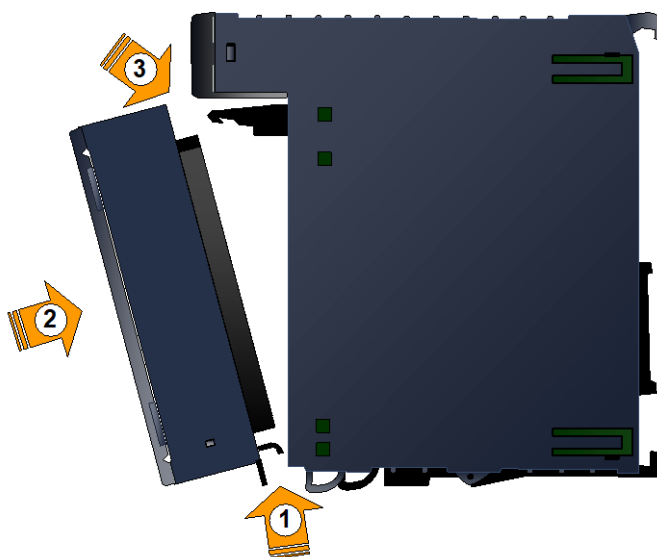

Figure 30: Installing Terminal Block into I/O Module
- To install a terminal block (Figure 30):